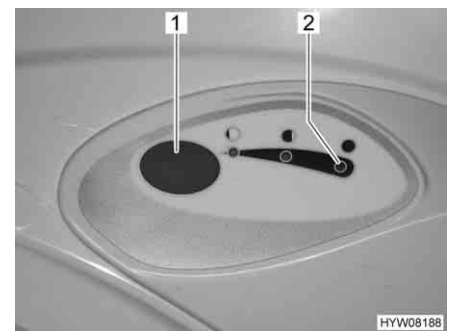

Fig. 202 Flush button/indicator lamp Thetford toilet
- For flushing, press the blue flush button (Fig. 202,1).
The indicator lamp (Fig. 202,2) lights up whenever the sewage tank has to be emptied.